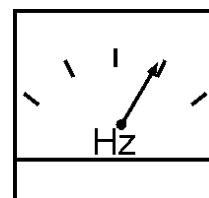

Figure 41. Frequency Meter
5. The generator's frequency meter (Figure 41) should be displaying the 50 cycle output frequency in **HERTZ**.